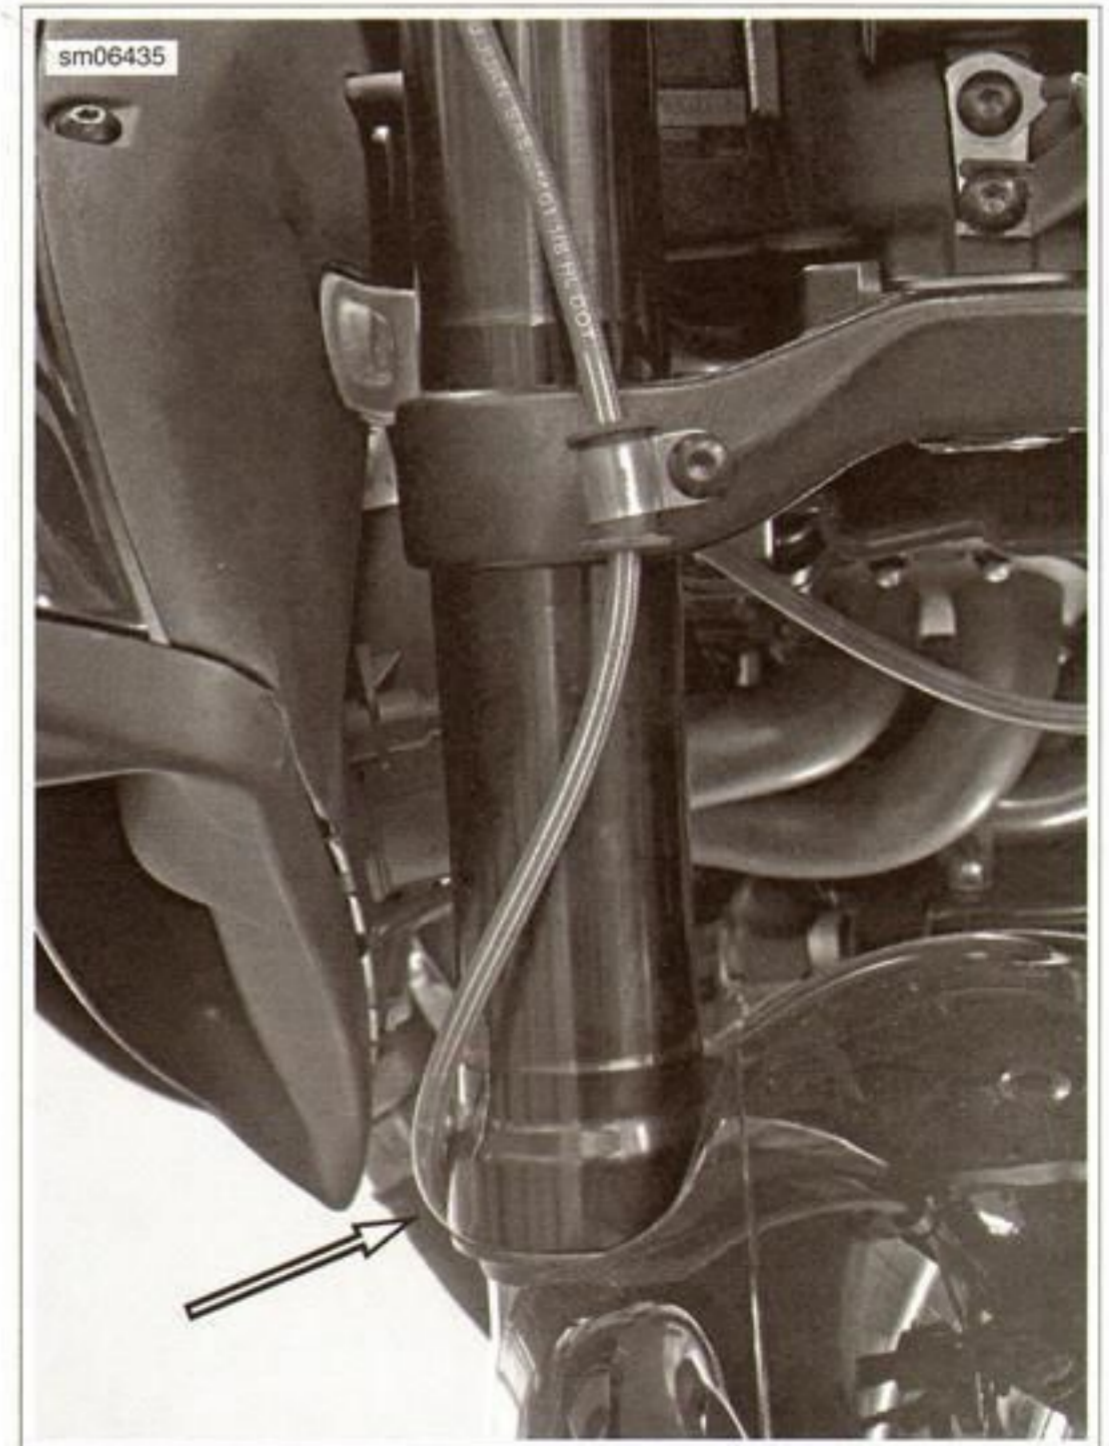

Figure 2-61. Brake Fluid Line Routing
- See Figure 2-61. Route the fluid line from the master cylinder to the caliper in front of the lower fork clamp and around the outside of the fork tube.